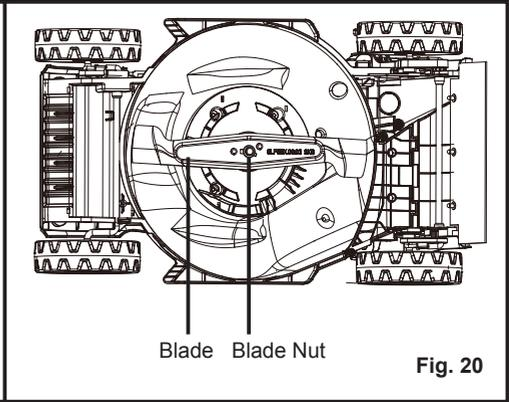

Fig. 20
10. Torque the blade nut down using a torque wrench (not provided) to ensure the bolt is properly tightened (Fig. 20).